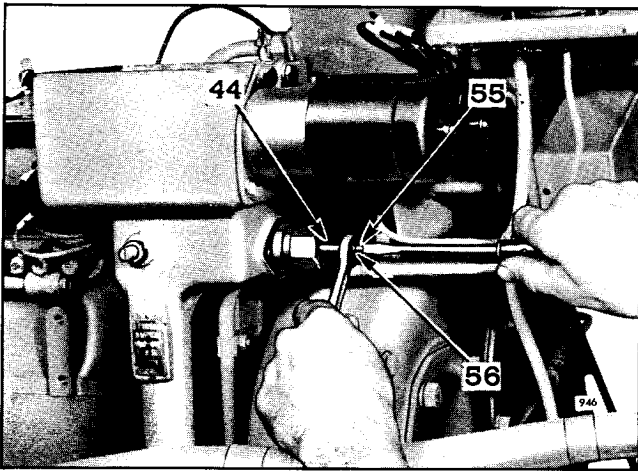

Fig. 5 - Adjusting Engine Idle Speed
1. Remove the spherical rod end bearing bolt (341) from throttle control lever (12) then raise the turnbuckle and spherical rod end bearing up and rest it against the side of throttle control housing.
2. Check arc of travel of throttle lever (12), then loosen throttle lever retaining bolt and set throttle lever on throttle shaft so that it will be in a vertical position when the throttle shaft is at 1/2 of its total travel. Tighten throttle lever retaining shaft bolt securely.
3. Loosen lock nut and adjust turnbuckle (343) until it has at least three complete turns of travel to its shortest length.
4. Loosen lock nuts at each side of spherical rod end bearing (327) and adjust the spherical rod end bearing along the operating beam until the bearing and turnbuckle is parallel with turnbuckles (333) and (334) and at right angles to the operating beam (324).
6. Loosen the idle speed adjusting screw lock nut (56), see Fig. 5. Start engine, then adjust the idle speed screw (55), if necessary, to attain a speed of 750 r.p.m. as shown in Fig. 5. Then tighten the adjusting screw lock nut.
1. With the engine running and warmed to normal operating temperature, refer to Fig. 5 and loosen lock nut (56) on the idle speed adjusting screw (55). Turn the idle adjusting screw IN or OUT until engine is operating at approximately 15 r.p.m. below the recommended idle speed.